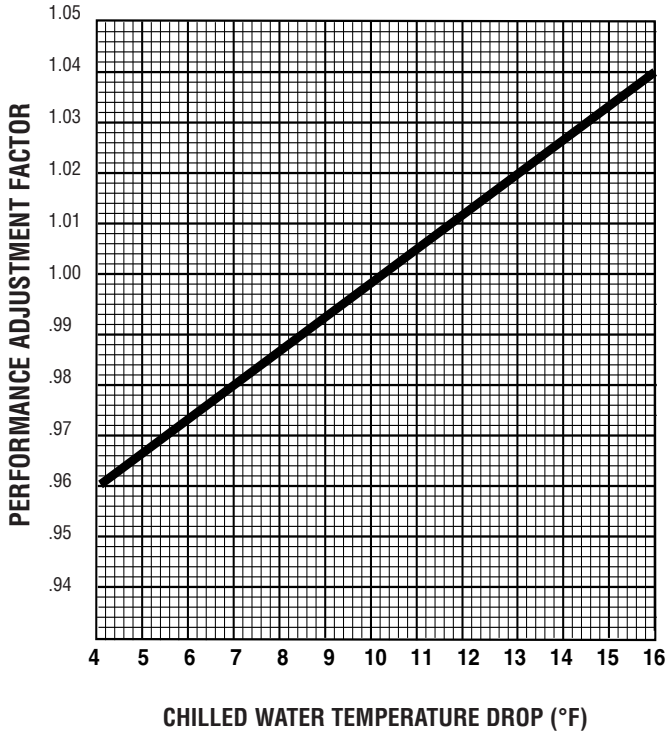

Figure 1. Performance Adjustment Factor
Capacity tables are based on a 10° F temperature drop through the evaporator. For other than 10 °F temperature drop, apply the respective performance adjustment factors from **Figure 1**.
1. Use **Figure 1** adjustment factor for tons to convert tons to 10°F at equivalent for use with capacity tables.
4. At 12°F evaporator temperature drop, applying **Figure 1** performance adjustment factors result in: